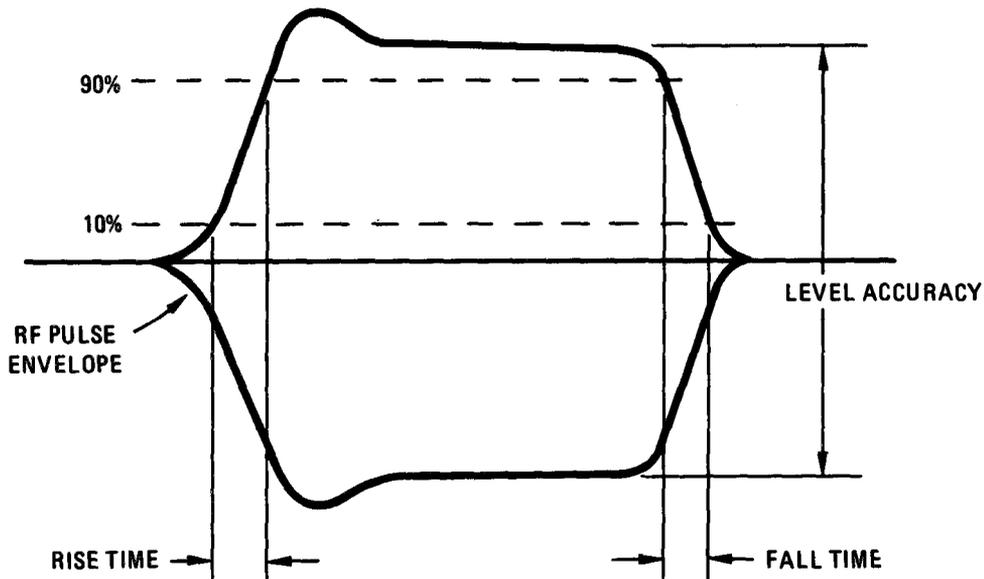

Figure 4-27. Pulse Measurements
3. Adjust oscilloscope to display the RF pulse envelope. Readjust the pulse width for 10 μ s (measured at 50% amplitude points) and measure the rise and fall times (see Figure 4-27). Both should be less than 9 μ s (measured between 10% and 90% of the full pulse amplitude).